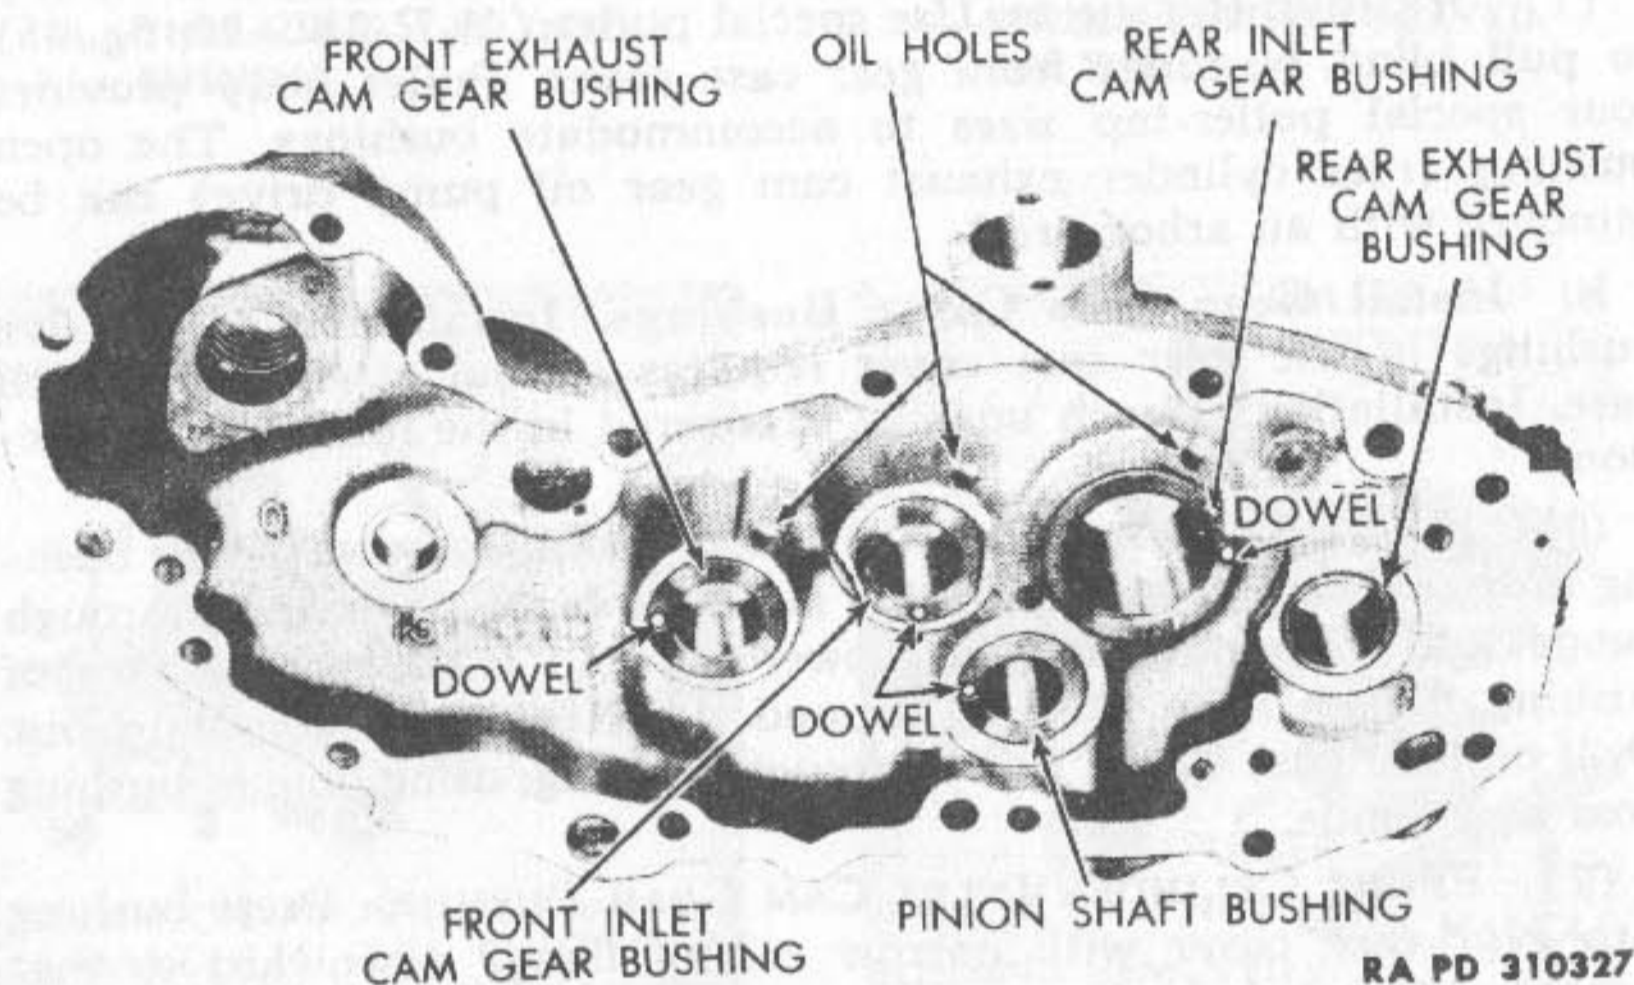

Figure 44—Cam Gear Bushings in Gear Case Cover
b. **Inspect Timing Gear Shaft Bushings** (fig. 44). When bushings in gear case cover are worn to such extent that shaft clearance is 0.002 inch or more, cam gears are likely to become very noisy. Replace bushings if this is found.